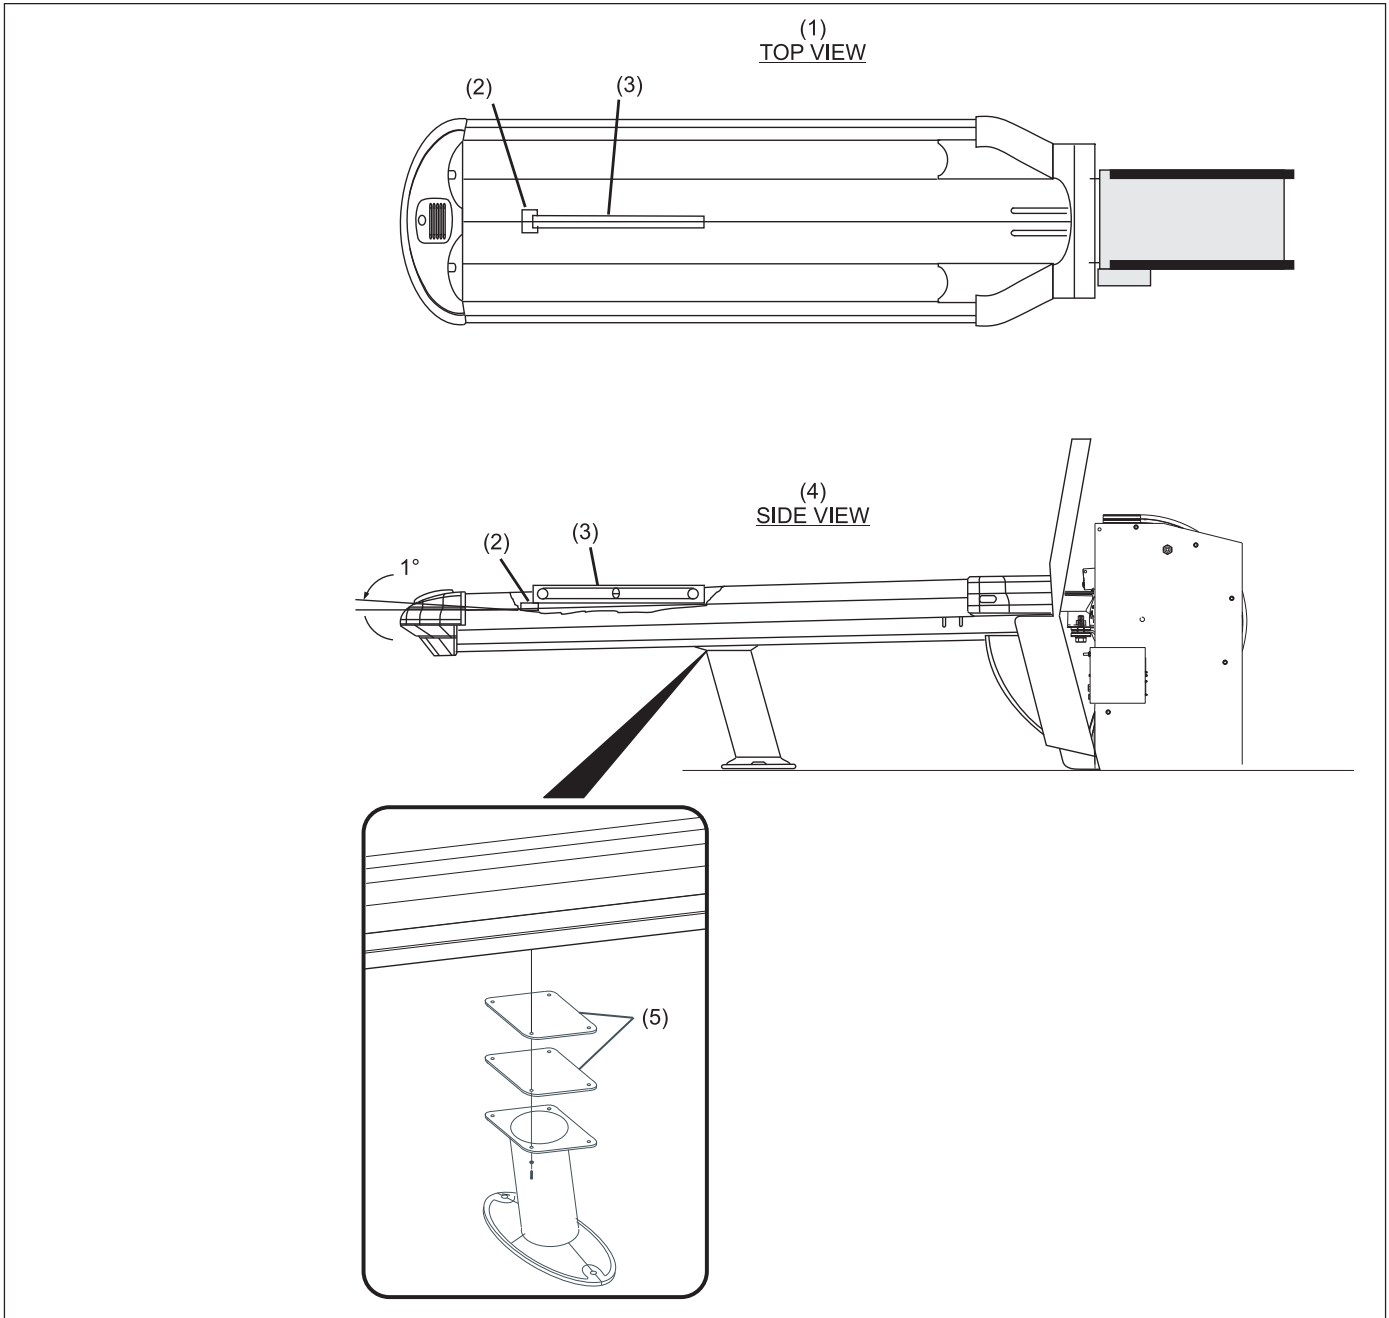

Figure 7. Ball Rack Slope
(1) BALL RACK MOUNTING BRACKET
(2) BALL LIFT MOUNTING BRACKET
- The ball rack must have a slope of  $1^\circ$  down from the ball lift. This slope can be measured using a 24" level placed parallel to the sides of the ball rack with a .42" shim placed under the end opposite the ball lift. Add or remove the leg spacers as required to obtain the proper slope. Each leg spacer increases or decreases slope by approximately  $1/2^\circ$ . Refer to *Figure 7*.